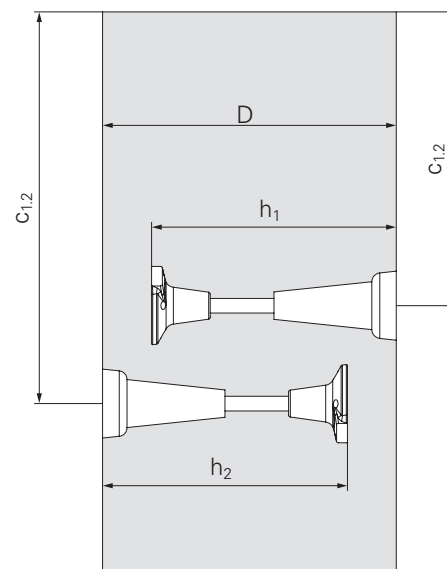

Fig. A3.06
- ⇒ For minimum edge distances c , minimum wall thickness D and other constructional requirements, refer to the separate PERI product information and the project-specific planning and do not fall short of these. (Fig. A3.06)